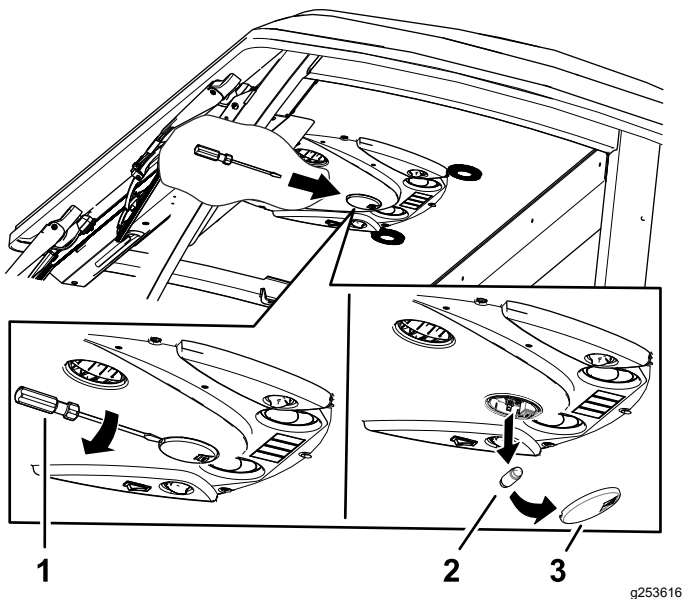

Figure 84
1. Use a screwdriver to remove the light lens from the control panel. (Figure 84).
2. Remove the bulb from the light base (Figure 84).